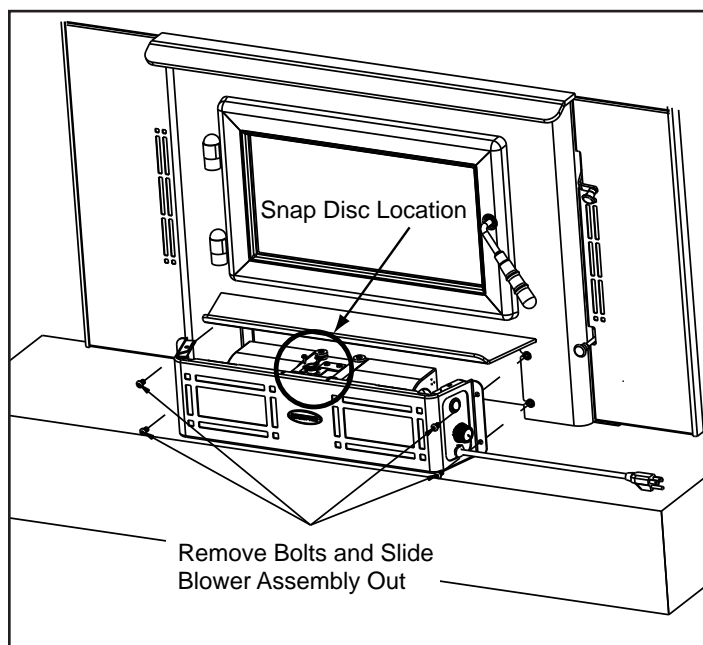

Figure 21.1 Snap Disc Location
1. Locate the snap disc bracket assembly in the blower housing under the ash lip. **Figure 21.1**